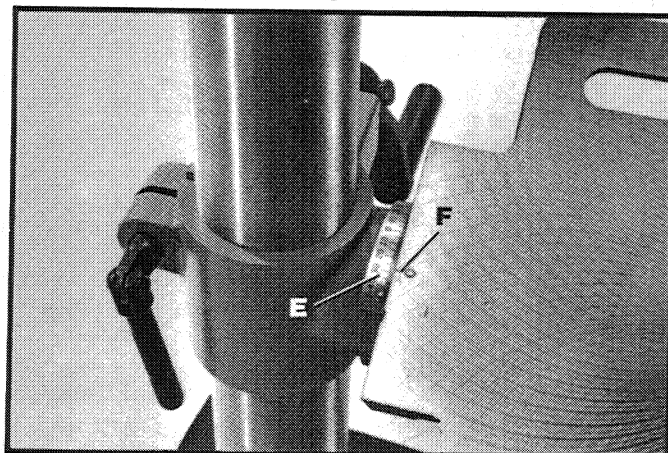

Fig. 33
5. A tilt scale (E) Fig. 33, is provided on the table bracket casting to indicate the degree of tilt. A witness line (F) is also provided on the table to line up with scale (E).